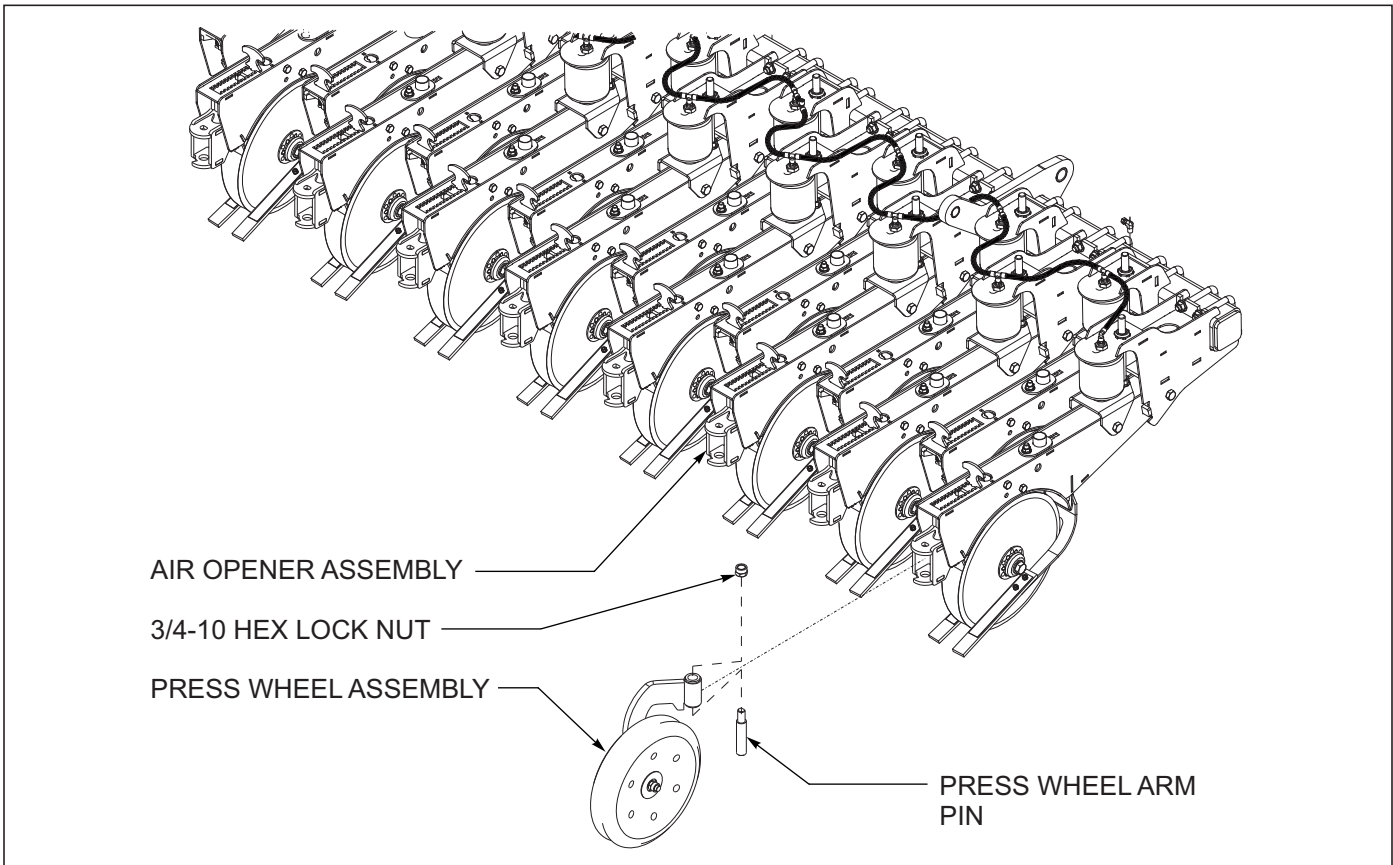

Figure 3-1: Press Wheel Assembly
1. Attach each press wheel assembly to each air opener assembly on the Grain Drill using press wheel arm pin and 3/4-10 hex lock nut (See Figure 3-1.)